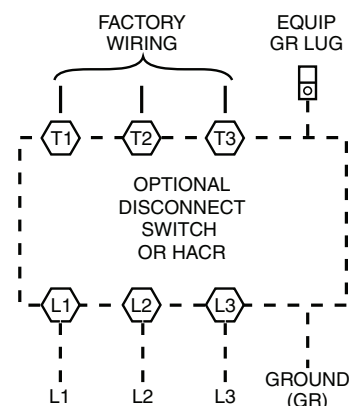

Fig. 42 — Power Wiring Connections
Size wire based on MCA (Minimum Circuit Amps) on the unit informative plate. See Fig. 42 for power wiring connections to the unit power terminal blocks and equipment ground. Maximum wire size is 2/0 AWG per pole.
3. Install power lines to terminal connections as shown in Fig. 42.